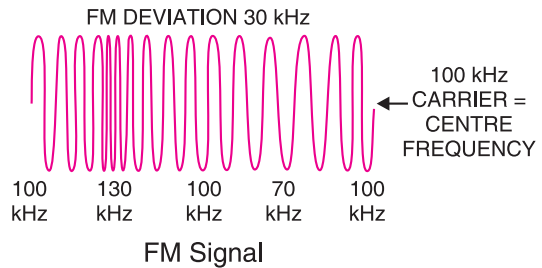

Fig. 16.13
Illustration. The process of frequency modulation (FM) can be made more illustrative if we consider numerical values. Fig. 16.13 shows the FM signal having carrier frequency $f_c = 100 \text{ kHz}$. Note that FM signal has constant amplitude but varying frequencies above and below the carrier frequency of 100 kHz ($= f_c$). For this reason, f_c ($= 100 \text{ kHz}$) is called **centre frequency**. The changes in the carrier frequency are produced by the audio-modulating signal. The amount of change in frequency from f_c ($= 100 \text{ kHz}$) or **frequency deviation** depends upon the amplitude of the audio-modulating signal. The frequency deviation increases with the increase in the modulating signal and vice-versa. Thus the peak audio voltage will produce maximum frequency deviation. Referring to Fig. 16.13, the centre frequency is 100 kHz and the maximum frequency deviation is 30 kHz . The following points about frequency modulation (FM) may be noted carefully :